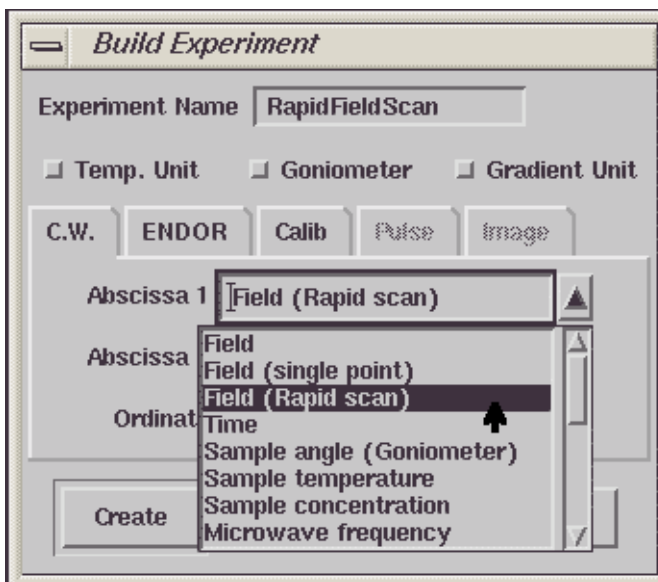

Figure 6-4 Selecting Field (Rapid scan) for Abscissa 1.
2. **Select Field (Rapid Scan).** In the Abscissa 1 drop-down list, select Field (Rapid Scan). (See Figure 6-4.)